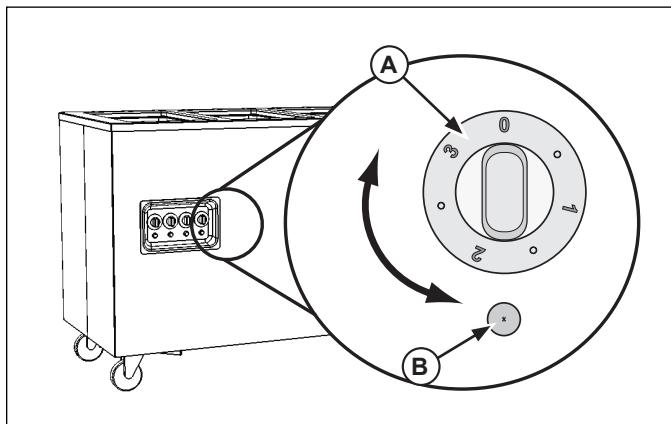

Figure 4. Standard Hot Well Controls
- (A) TEMPERATURE CONTROL** dial. Used to set or adjust the temperature of the well. The higher the number the higher the temperature, the lower the number the lower the temperature. The "0" position is off.
- (B) POWER** light. Illuminates when the well is in the heating mode.
4. Preheat the water in the wells by covering wells with empty food containers or covers. Turn the temperature control (A) to the maximum heat setting. See Figure 4. Preheat for 60 minutes.